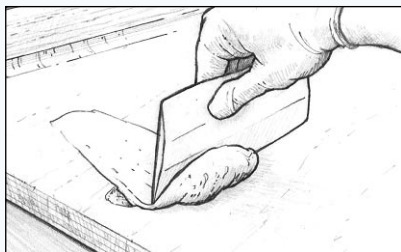

Figure 22 Apply fairing compound to fill all voids and smooth to shape.
4. Trowel the thickened epoxy mix onto the wetted surface with a plastic spreader, working it into all voids and depressions. Smooth the epoxy to the desired shape, leaving the mix slightly higher than the surrounding area (*Figure 22*). Remove any excess thickened epoxy before it cures. If filling voids over 12mm deep, apply the fairing mix in several applications allowing each application to partially cure before proceeding and/or use 206 Slow Hardener or 209 Extra Slow Hardener, depending on temperature.